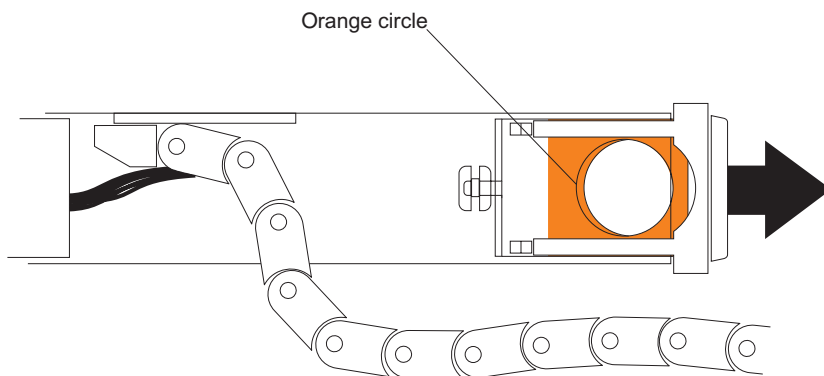

Figure 91. Horizontal mounting bracket that connects to the drive drawer
- d. Disconnect the right cable chain mounting bracket from the drive drawer. Hold the orange handle (see Figure 91), and pull the mounting bracket completely out of the drive enclosure. Remove the right cable chain.